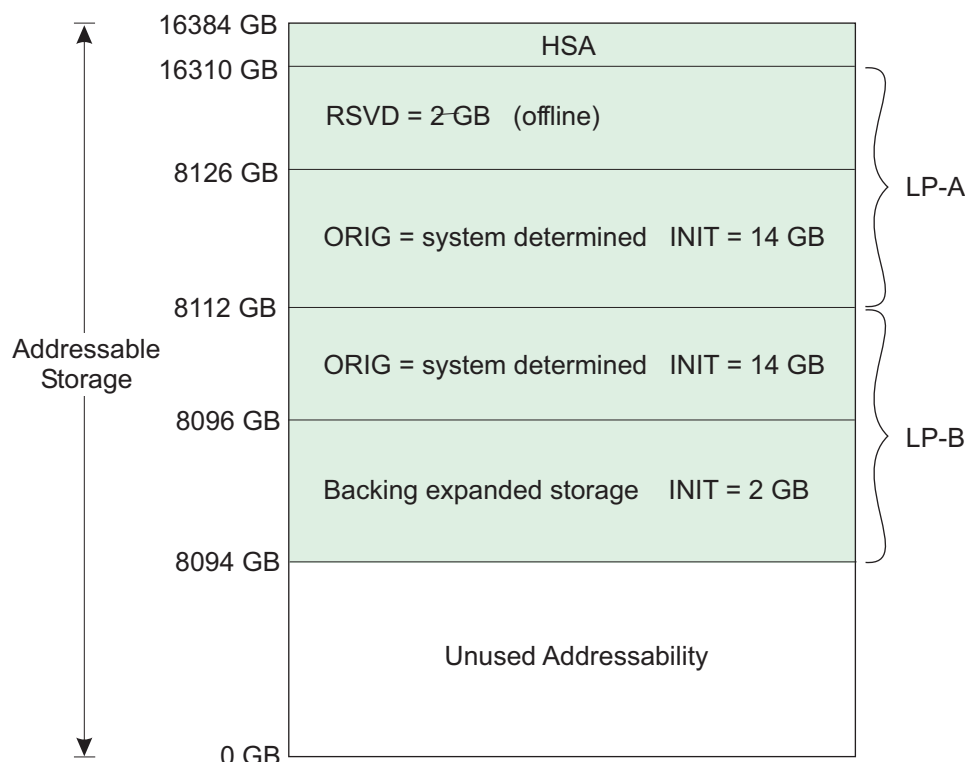
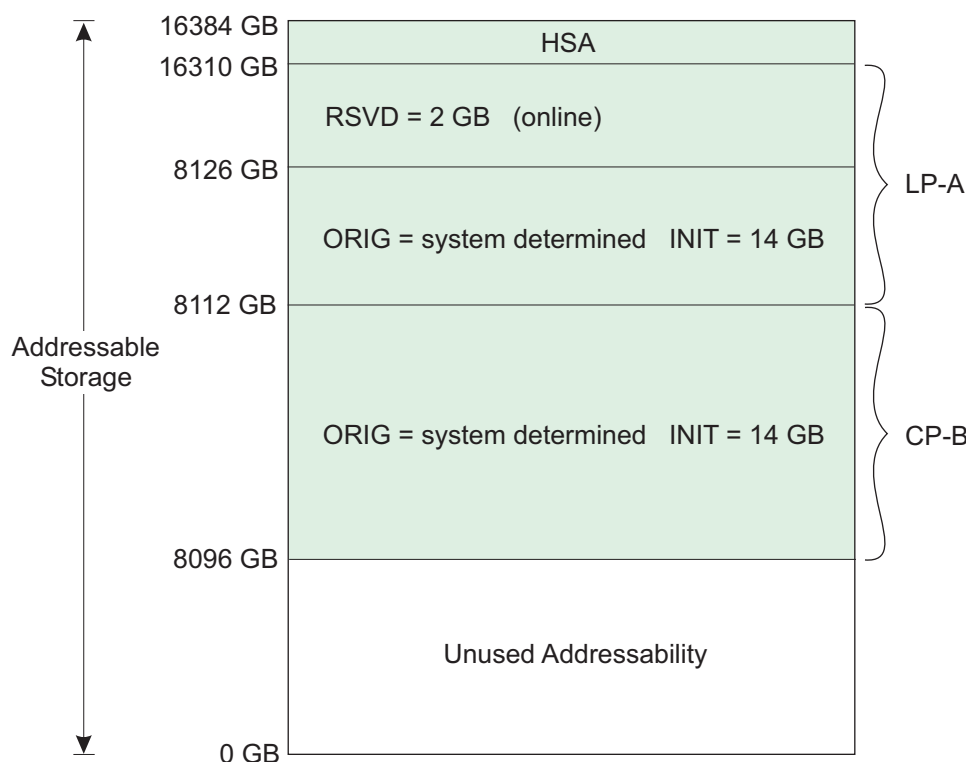

Figure 29. Initial central storage layout
Figure 30. Central storage layout following reconfiguration
Figure 29 on page 109 and Figure 30 on page 110 are examples of dynamic reconfiguration of central storage. For this example, assume the amount of customer storage is 1024 GB. The amount of *addressable* central storage used by hardware system area (HSA) is 74 GB in this example leaving 16310 GB of addressable storage for allocation to LPs. The storage granularity is 256 MB.
LP-A is defined with an initial amount of 14 GB of central storage, a reserved amount of 2 GB, and a system determined central storage origin. LP-B is defined with an initial amount of 14 GB of central storage, with a system determined central storage origin and an initial amount of 2 GB of expanded storage. The central storage addressability used to back online expanded storage is always system determined and in this case is coincidentally but not necessarily contiguous with the addressability used to back the logical partition's central storage. LP-A and LP-B are activated and IPLed. Figure 29 on page 109 shows the resulting storage layout following these actions.
**Note:** LP-A should specify an RSU value of at least 8 (2048/256) for reconfigurations of storage to work. From the z/OS software console for LP-B, enter **CF ESTOR(E=0),OFFLINE**. Next, from the z/OS software console for LP-A, enter **CF STOR(E=1),ONLINE**. Figure 30 on page 110 shows the resulting storage layout following these actions. The reserved storage is fully reconfigured without an outage to either LP-A or LP-B.